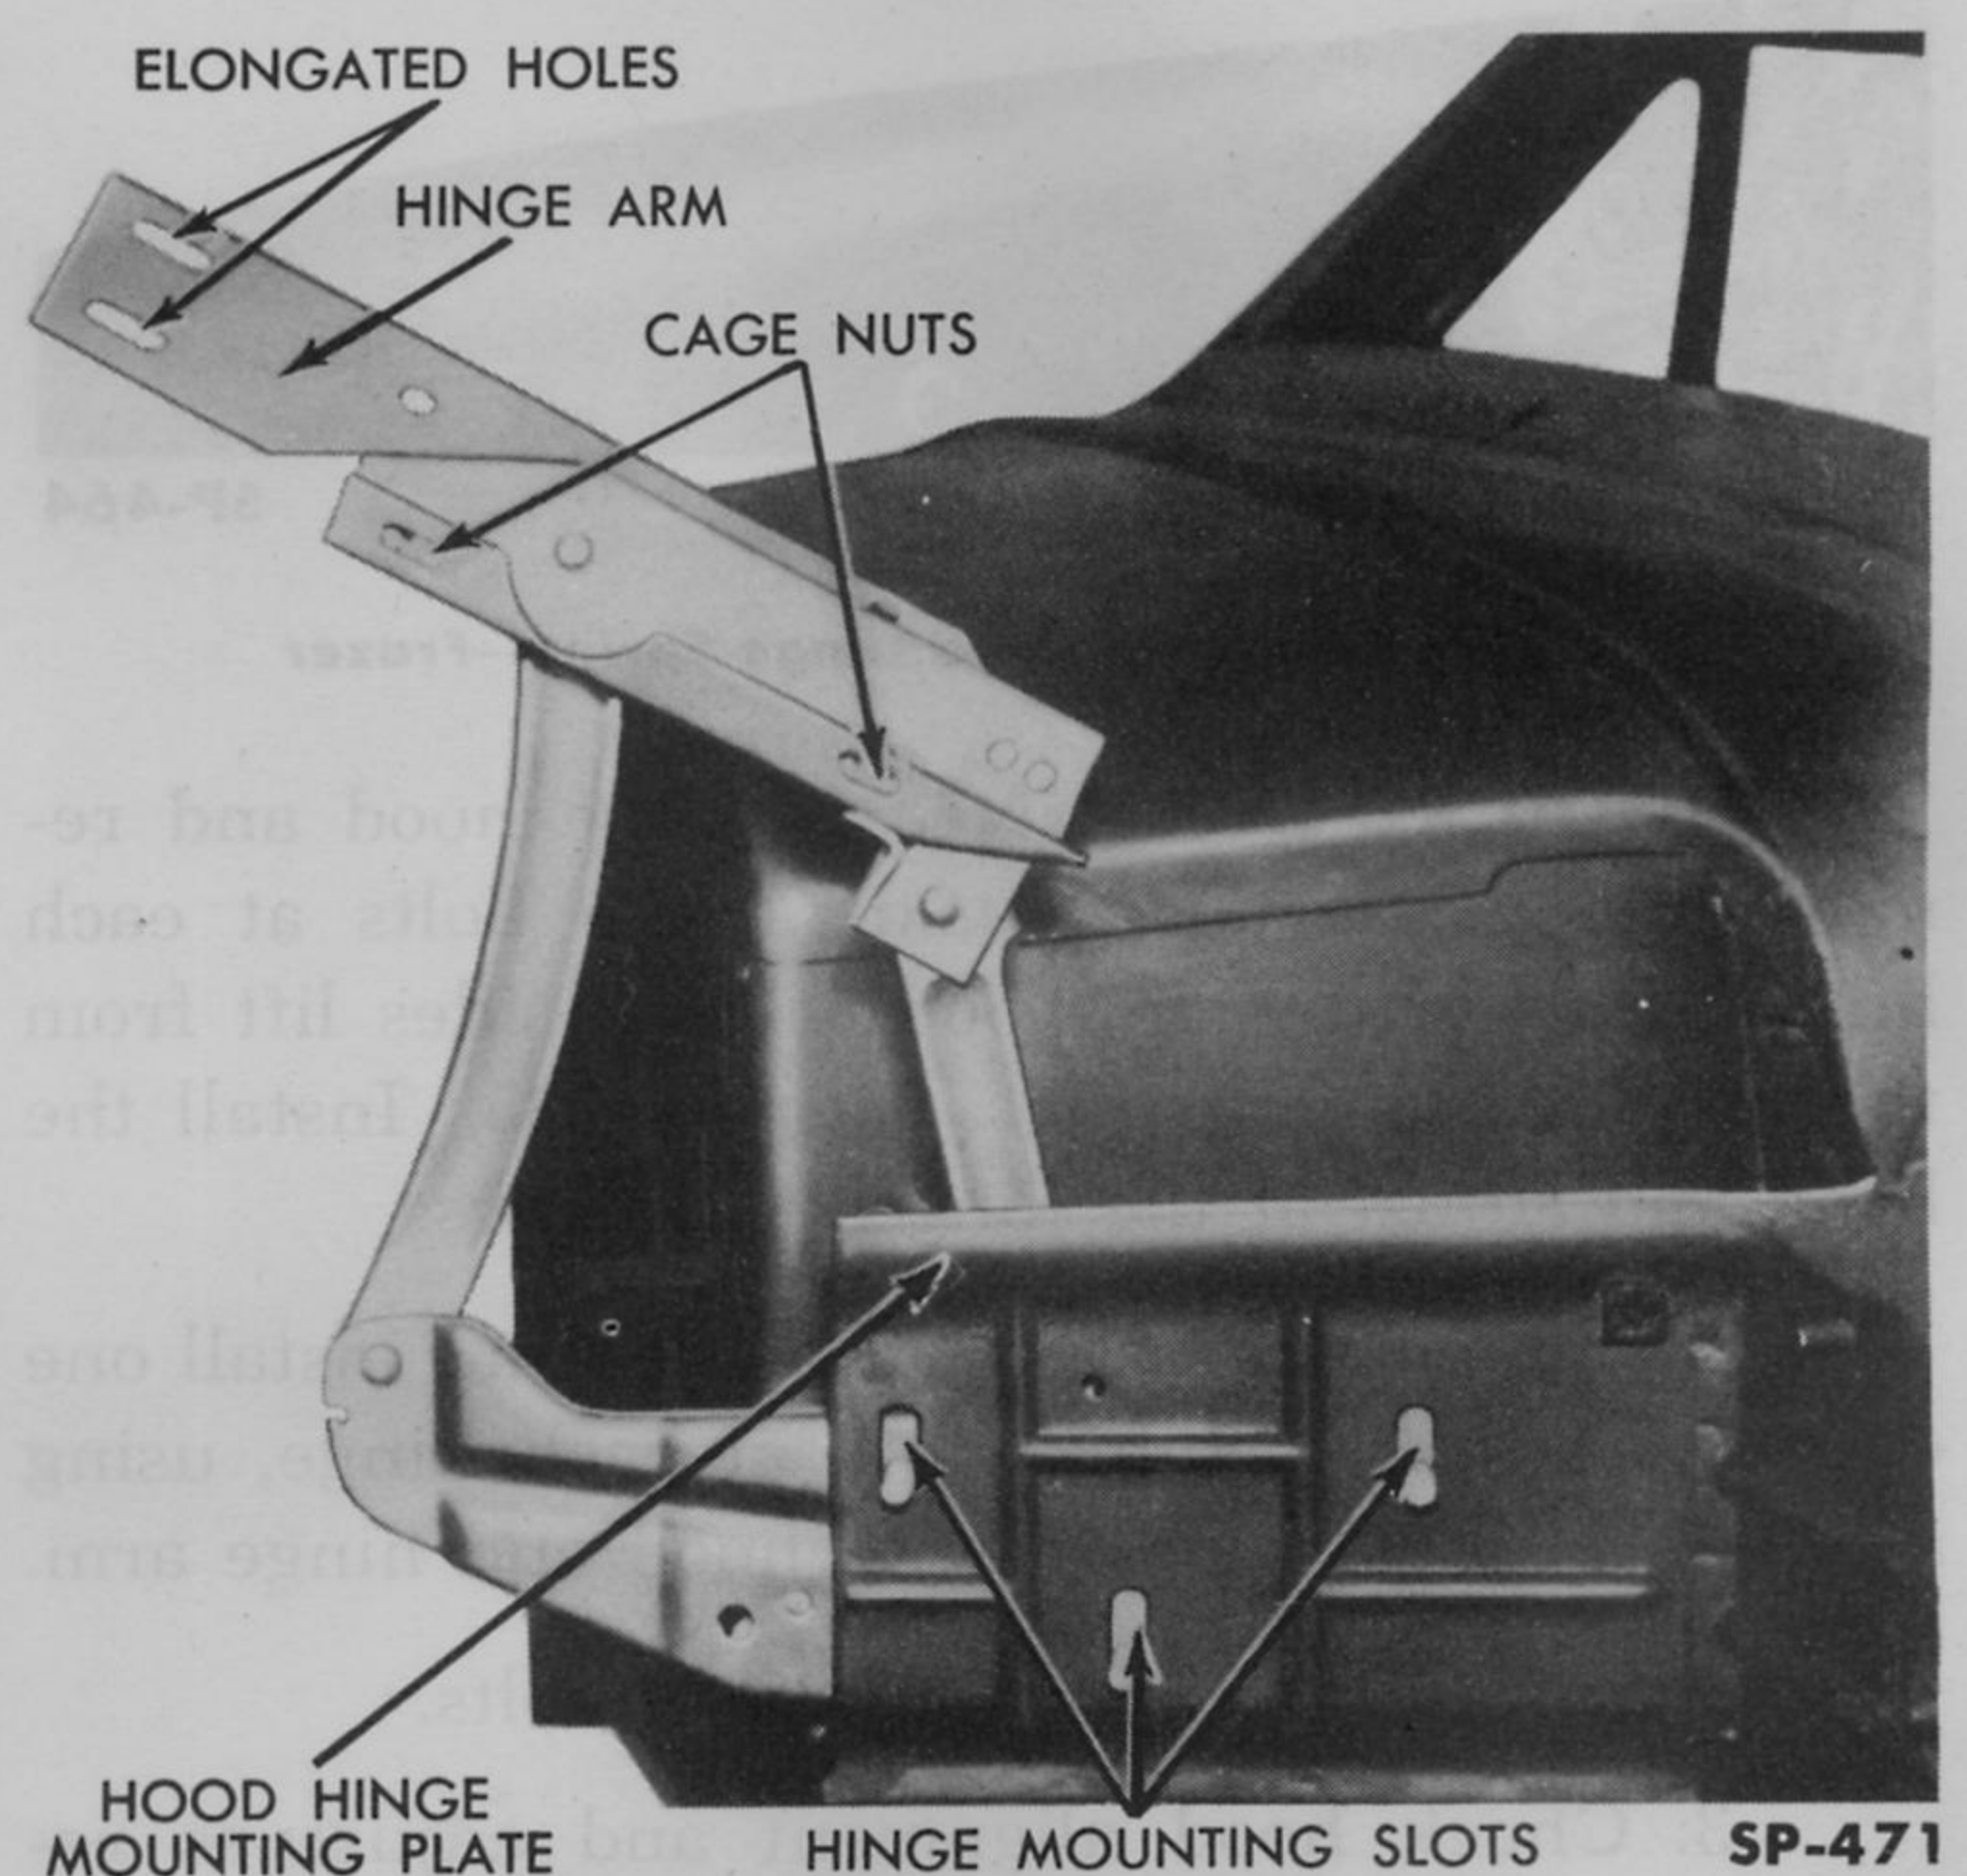

Fig. 339—Hood Hinge Adjustment Points—Frazer
**2. Hood Alignment—Frazer.** The right and left hood hinge assemblies (Fig. 339) are attached to mounting brackets that are permanently attached to the body. The plates are provided with three slotted hinge-mounting holes that accommodate the hinge mounting studs and permit as much as  $\frac{1}{2}$  of an inch of vertical adjustment of the hinges. The hinge stud nuts are easily accessible in the fender wells.
Lengthwise or fore and aft positioning of the hood is obtained at the point where the hood attaches to the hinge arms (Fig. 339). The hood is attached to the hinge arms by means of four screws on each side, two through the slotted end holes and two into the caged nuts to the rear of the slotted holes. Adjustment at these points permits as much as  $\frac{1}{2}$  inch lengthwise positioning of the hood.
(2) When adjustment has been accomplished to match the contour of the hood with the cowl, it then is necessary to regulate the height of the hinge assemblies to bring the hood down to a snug fit on the anti-squeak moulding. This is accomplished by adjustment of the hinges at the vertical slots in the cowl bracket (Fig. 339).